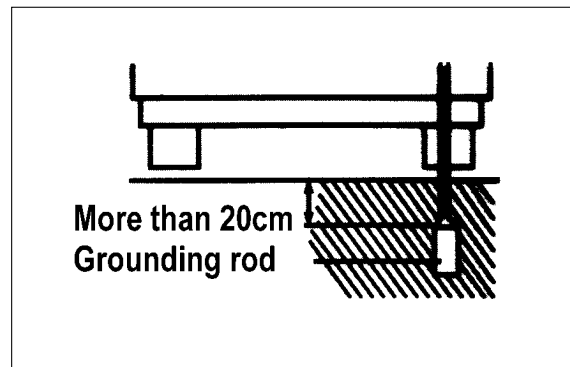

Fig. 2
- For maximum security, attach the grounding wire to a copper plate or grounding rod and bury it at least 20cm in the ground like Fig2.